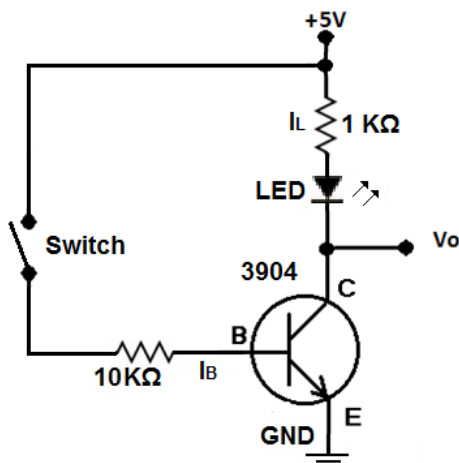

Figure 8.2: NPN transistor as switch.
1. Connect the circuit as shown in the figures 8.2.